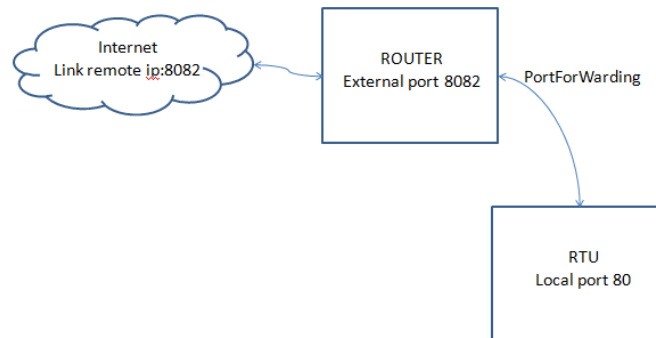

Figure 27 - Network infrastructure
- HTTP Portforward: defines the external HTTP port if configured differently from 80, to ensure that emails are sent correctly. See Figure 27